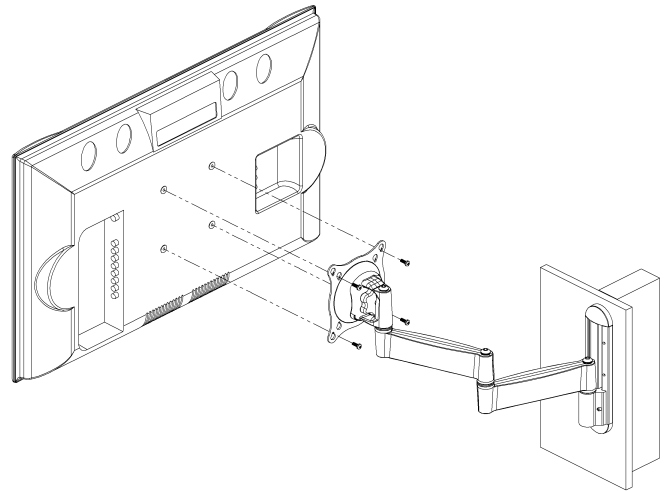

Figure 5. Flush Mounting
- C. Start two M4 X .7 X 12mm Phillips pan head screws in the top mounting holes of your display (see Figure 5).